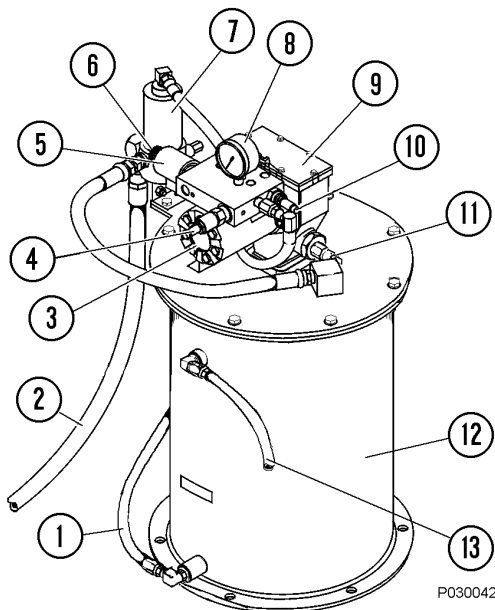
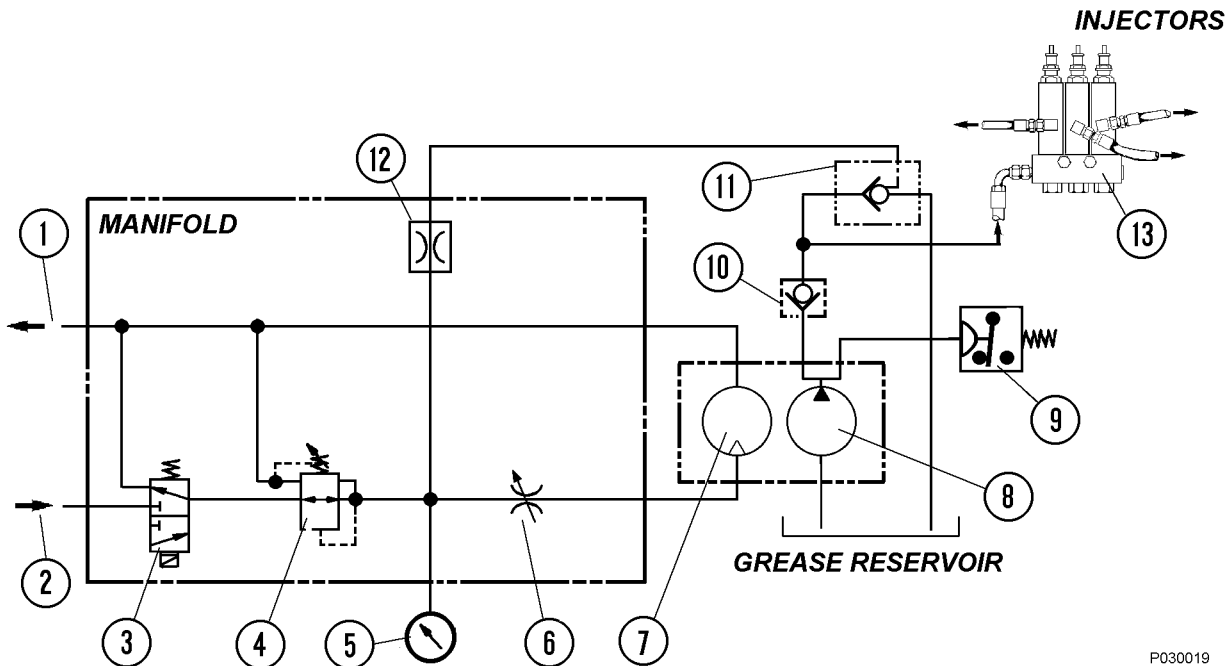
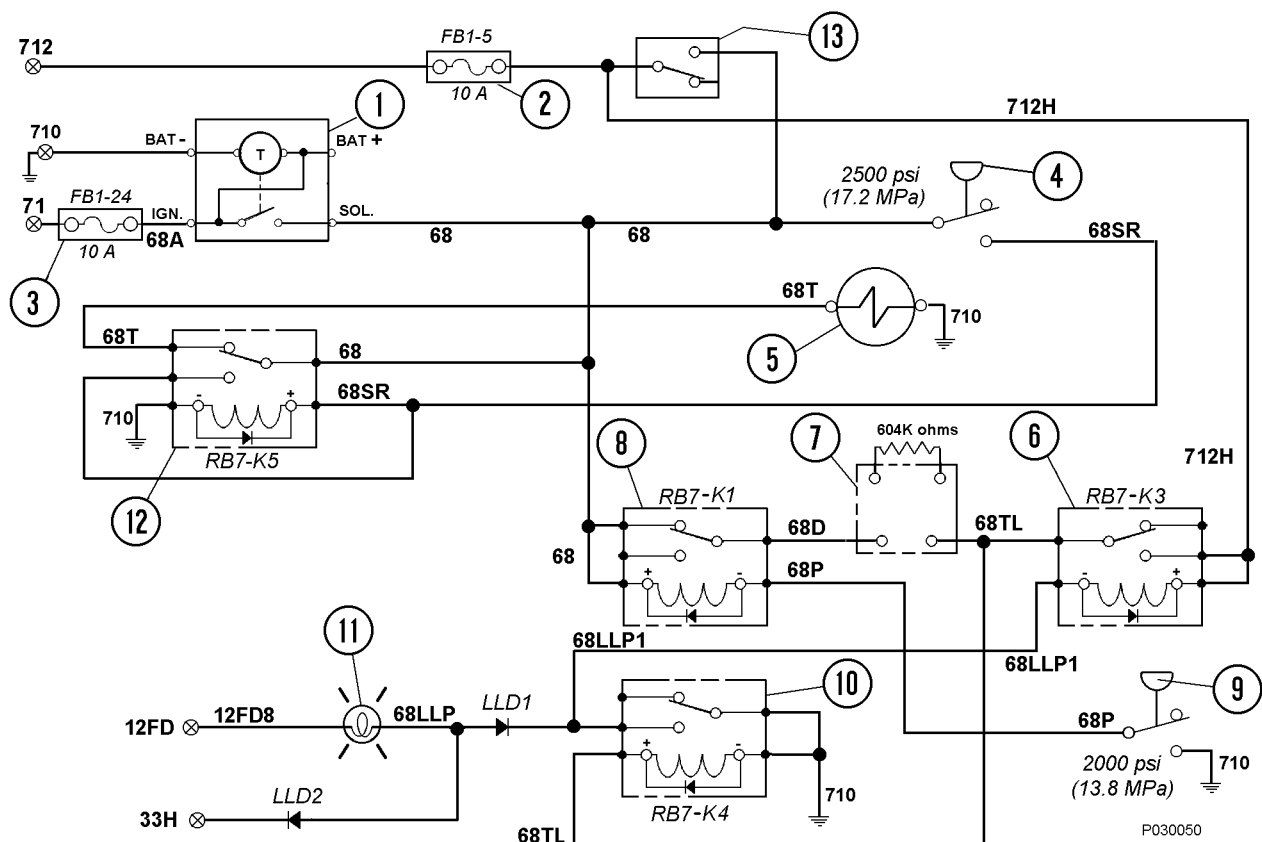

FIGURE 42-1. PUMP/RESERVOIR COMPONENTS
FIGURE 42-3. HYDRAULIC SCHEMATIC
FIGURE 42-4. ELECTRICAL SCHEMATIC
The rotary hydraulic motor and pump (3 & 9, Figure 42-1) is a fully hydraulically operated grease pump. An integrated pump control manifold is incorporated with the motor to control input flow and pressure.
Grease reservoir (12, Figure 42-1) has a capacity of 90 lbs. (41 kg). When the grease supply is replenished by filling the system at the service center, the grease passes through a filter to remove contaminants before it flows into the reservoir.
Pressure reducing valve (4, Figure 42-1), located on the manifold, reduces the hydraulic supply pressure (from the steering circuit) to a suitable operating pressure of 325 to 350 psi (2240 to 2415 kPa) for the hydraulic motor used to drive the lubricant pump.
Flow control valve (10, Figure 42-1), mounted on the manifold, controls the amount of oil flow to the hydraulic motor at 2.5 GPM (9.5 L/min.).
Solenoid valve (5, Figure 42-1), when energized, allows oil to flow to the hydraulic motor.
With vent valve (7, Figure 42-1) closed, the pump continues to operate until maximum grease pressure is achieved. As this occurs, the vent valve opens and allows the grease pressure to drop to 0, so the injectors can recharge for their next output cycle.
The solid state lubrication cycle timer (1, Figure 42-4) provides a 24 VDC timed-interval signal to energize solenoid valve (5, Figure 42-1), providing oil flow to operate the grease pump motor. This timer is mounted in the electrical interface cabinet.
Time delay module (7, Figure 42-4), located in the electrical interface cabinet, provides a one minute delay in the low pressure warning lamp circuit to allow a normally operating system to attain full grease system pressure without activating the warning lamp. If the system fails to reach 2000 psi (13,789 kPa) within this time period, the timer will apply 24VDC to several relays which will illuminate the low pressure warning lamp in the overhead display. An external 604K ohm resistor determines the delay period.
Pump cutoff pressure switch (11, Figure 42-1) de-energizes the pump solenoid relay when the grease line pressure reaches the switch pressure setting, turning off the motor and pump.
Pressure gauge (8, Figure 42-1) monitors hydraulic oil pressure to the inlet of the hydraulic motor.
1. During truck operation, lubrication cycle timer (1, Figure 42-4) will energize the system at a preset time interval.
2. The timer provides 24 VDC through normally closed relay RB7K5 (12). This relay is used to energize pump solenoid valve (5), allowing hydraulic oil provided by the steering pump circuit to flow to the pump motor and initiate a pumping cycle.
3. Pressure reducing valve (4, Figure 42-3) reduces hydraulic oil pressure from the steering circuit to 325 to 350 psi (2240 to 2413 kPa) before entering the motor. Also, the amount of oil supplied to the pump is limited by flow control valve (6). Pump pressure can be read using gauge (5) mounted on the manifold.
4. With oil flowing into the hydraulic motor, the grease pump will operate, pumping grease from the reservoir through check valve (10), vent valve (11), and then to injectors (13).
6. When 2500 psi (17,237 kPa) grease pressure reaches pressure switch (4, Figure 42-4) setting, the switch contacts will close and energize the relay RB7K5, removing power from the hydraulic motor/pump solenoid and the pump will stop. The relay will remain energized until grease pressure drops and the pressure switch opens again or until the timer turns off.
1. When the lubrication cycle is initiated, 24VDC flows through normally closed relay RB7K1 (8), Figure 42-4) and connects to one-minute delay timer (7).
2. If the system is operating normally, grease pressure at the rear axle injector bank will rise to pressure switch (9) setting of 2000 psi (13,789 kPa) and energize relay RB7K1 (8), removing the 24VDC from the delay timer.
3. If a problem occurs and the system is not able to attain 2000 psi (13,789 kPa), delay timer (11) will energize relay RB7K4 (10) after 60 seconds, turning on the low lube system pressure warning lamp on the overhead display. After RB7K4 relay energizes, it will energize relay RB7K3 (6).